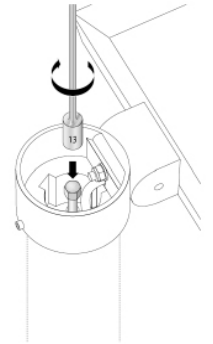

Figure 2
3. Secure luminaire head to pole by tightening 13mm hex nut to engage pole fitter expansion mechanism (Figure 2). **Torque - 8.85 ft-lb MAXIMUM.**